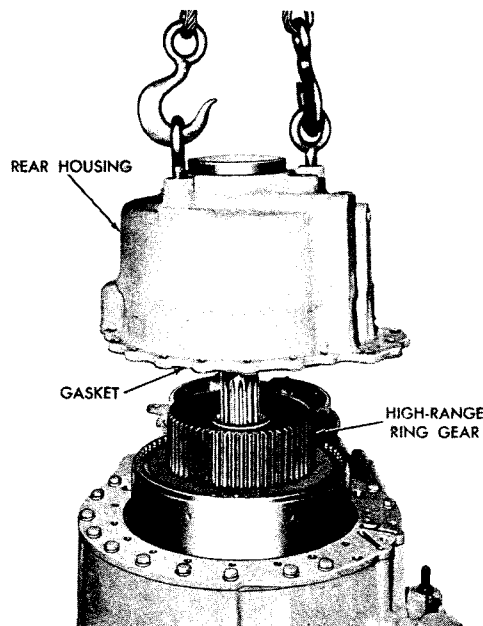

Fig. 5-17. Removing transmission rear housing assembly (-1 model)
(2) Remove the rear housing and internal parts in the rear housing, as a unit (fig. 5-17). Remove the gasket.
(3) Position rear housing 2 (B, fold-out 13), on blocks. Remove snapping 11 holding oil retainer 10 in the rear housing. Re-